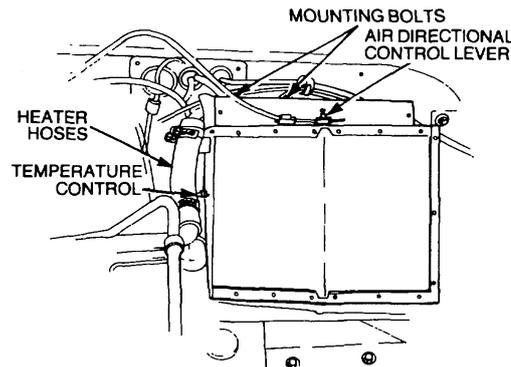

Figure 235 Heater Assembly Removal
- d. Disconnect the securing clip and cable from the air directional control lever (Figure 235).